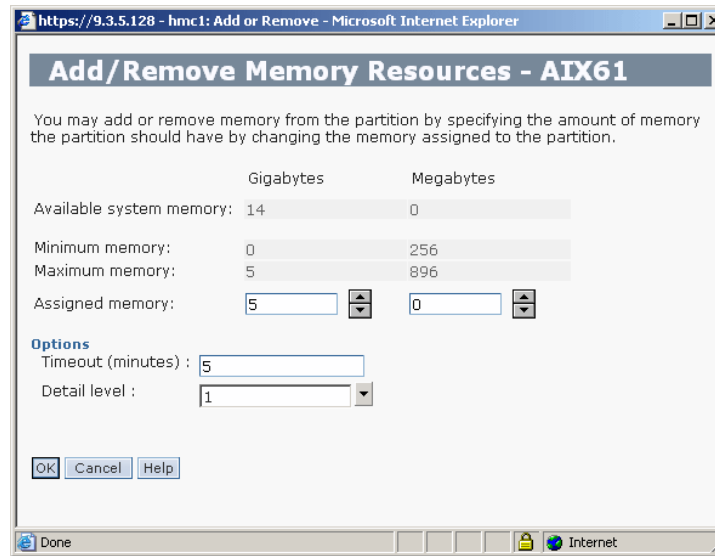
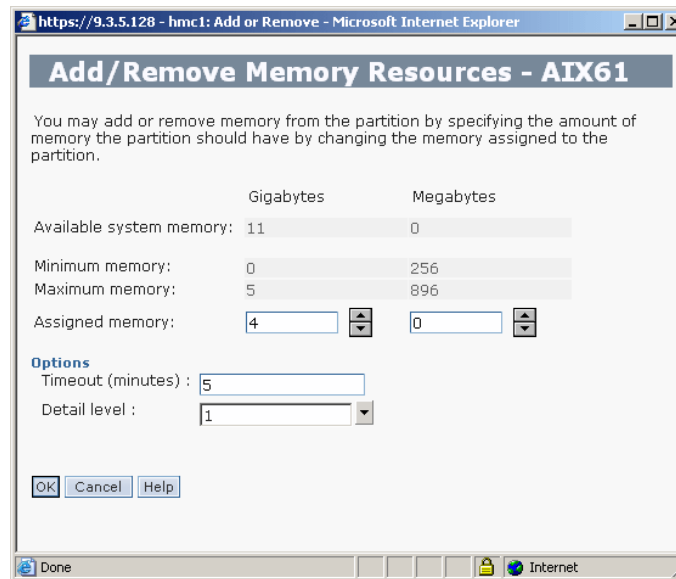

Figure 6-10 Changing the total amount of memory of the partition to 5 GB
Figure 6-13 Dynamically reducing 1 GB from a partition
2. Change the total amount of memory to be assigned to the partition. Note that on HMC Version 7 you do not provide the amount of additional memory that you want to add to the partition, but the total amount of memory that you want to assign to the partition. In Figure 6-10 the total amount of memory allocated to the partition was changed to 5 GB.
The graphical user interface to change the memory allocated to a partition is the same one used to add memory in Figure 6-10 on page 253. And the same reminder can be used here. On HMC Version 7, you do not choose the amount to remove from the partition as you did in the previous versions of HMC. Now you just change the total amount of memory to be assigned to the partition. In the command output above the partition has 5 GB and you want to remove, for example, 1 GB from it. In order to do this you just need to change the total amount of memory to 4 GB, as shown in Figure 6-13.